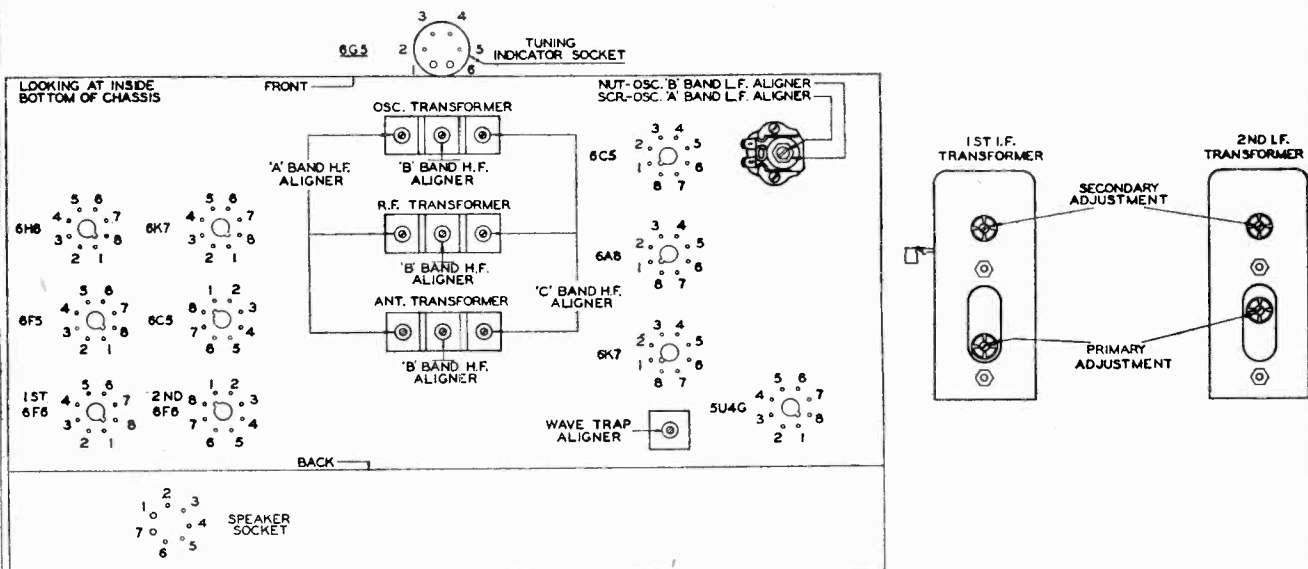

Fig. 1. Terminal Layout for Voltage Measurement Chart and Location of the Various Aligning Capacitors.
The various values of voltages listed in the following table are obtained by measuring between the various tube socket contacts and the chassis base, with the tubes in their respective sockets. The receiver is, therefore, in operation when the measurements are made. Figure 1, shows the terminal layout of the sockets with the proper terminal numbers.
- Now, noting from Figure 1 the aligning adjustments for the first and second I. F. transformers, align the I. F. Secondary of second I. F. transformer.